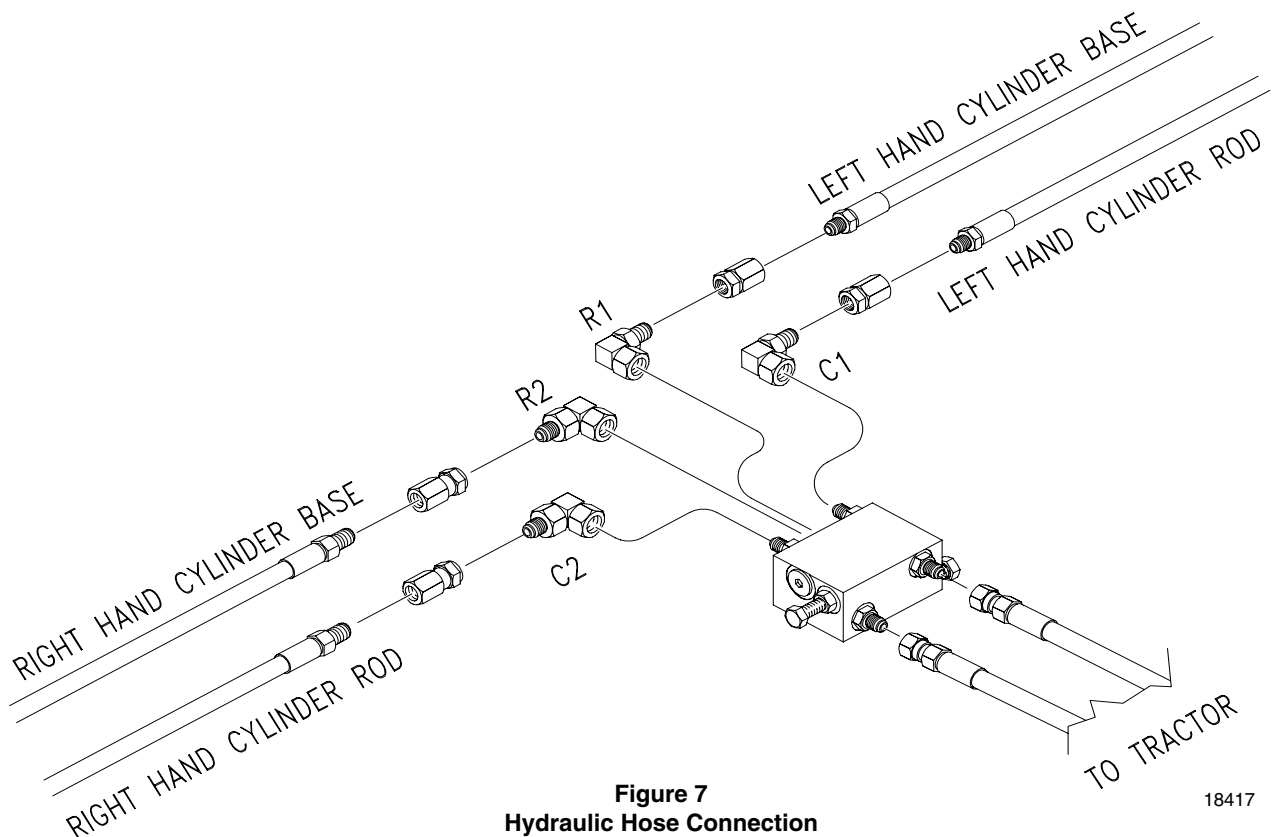

Figure 7
1. Mount sequence valve (1) on drill using mounting plate (2). Bolt plate to inside end of left-hand-box panel (3) using one 1/2-inch hex bolt (4).
2. Bolt valve to mounting plate with two 3/8 x 3/4-inch hex bolts and lock washers (5).
4. Use hoses provided to connect valve ports to cylinders. Refer to Figure 7 for port connections.